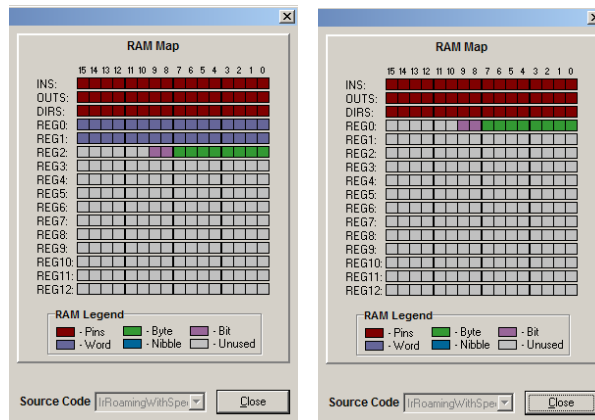

Figure 3-3
- ✓ Check the RAM Map to see how much RAM you are using. The color coding should show that REG 0 and 1 are word storage variables. It should also show that REG 2 has a byte and two bit variables, as shown on the left in Figure 3-3.
- ✓ Open the Memory Map again, and verify that only a byte and two bit variables are allocated to `REG 0`, as shown on the right in Figure 3-3.